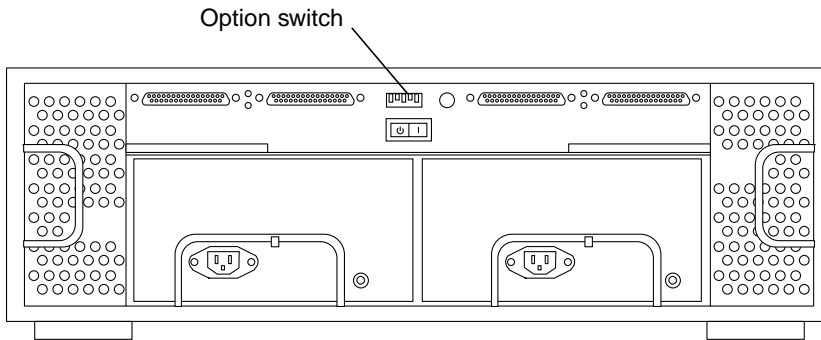

FIGURE 3-6 Netra st D1000 Rear View
2. At the rear of the Netra st D1000 system, locate the option switch (FIGURE 3-6).